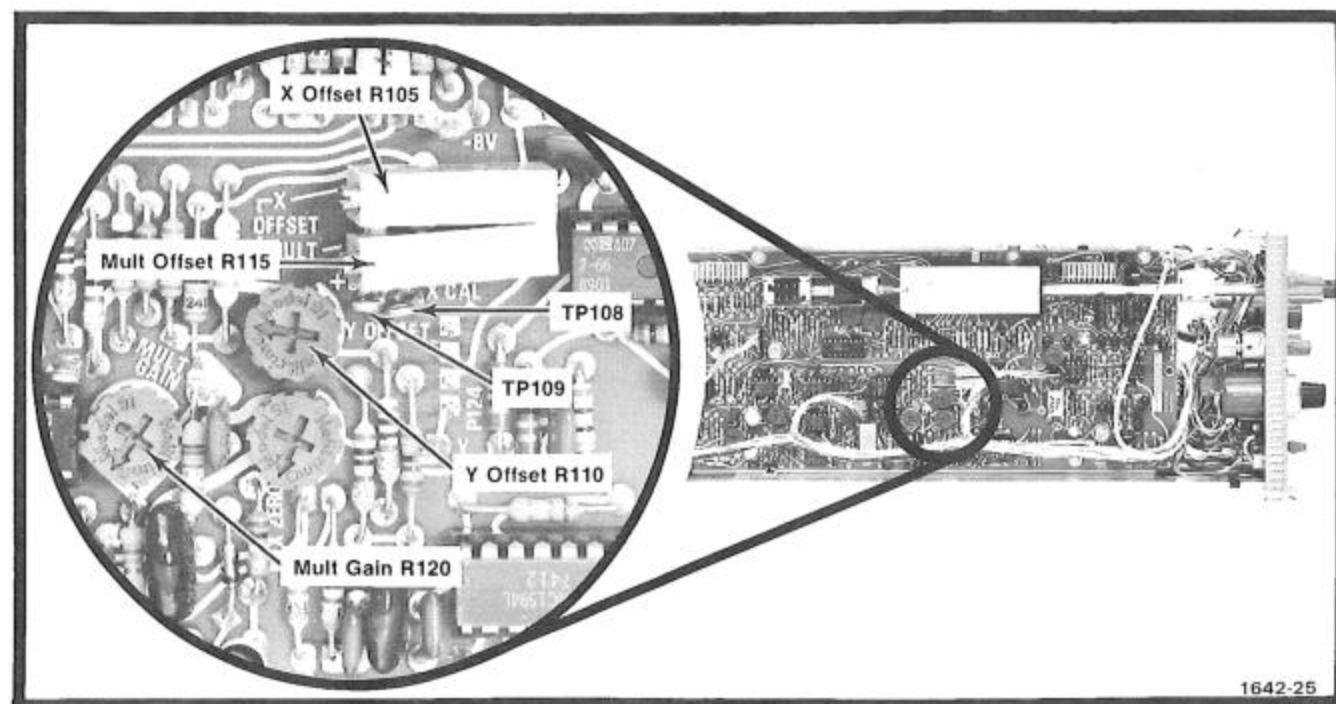

Fig. 5-20. Location of Multiplier Circuit balance and gain test points and adjustments.
b. CHECK—Spectrometer display for no trace shift while intermittently shorting test points TP 108 and TP 109 (see Fig. 5-20) together.
c. ADJUST—X Offset R105 (see Fig. 5-20) for no trace shift in the spectrometer display while intermittently shorting test points TP108 and TP109 together.
m. ADJUST—Y Offset R110 (see Fig. 5-20) for minimum signal amplitude in the spectrometer display.
q. ADJUST—Mult Gain R120 (see Fig. 5-20) for no difference in display amplitude when switching the SPECTRAL NORMALIZER switch back and forth between INT and OFF.
t. ADJUST—Mult Offset R115 (see Fig. 5-20) for no trace shift when switching the SPECTRAL NORMALIZER switch back and forth between INT and OFF.